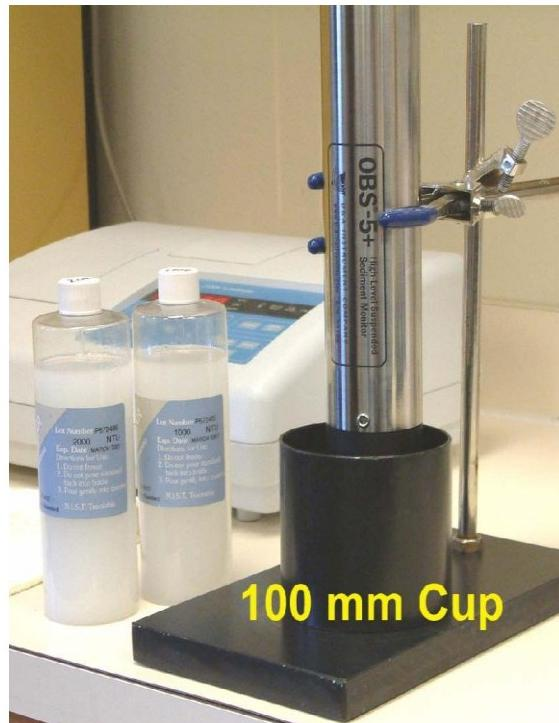

Figure 7-5. OBS-5+ in 100 mm cup
- 5) Enter 0.3 in the value box and click the record button to log the clear-water data point. The unit will take 1,200 measurements in 60 seconds. When the process is complete, the data appear in the data table and the point will be plotted on the calibration graph. If you are satisfied with the data, mount the unit in a 100 mm calibration cup as shown on Figure 7-5.